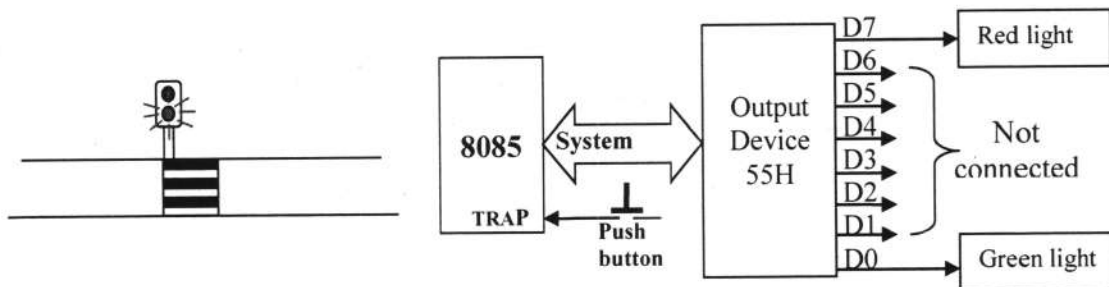

Figure 1
- c. Pedestrian crossing lights are installed at the zebra crossing as shown in the Figure 1 below. The system is controlled by an 8085 microprocessor. Write an assembly language program for 8085 to operate the lights continuously with one light on while the other is off. The green light is turned on for 4 seconds and red light for 10 seconds. Use subroutine for the delay, during each light operation. Assume that the clock frequency of 8085 is 3MHz.
To provide preference to the pedestrians, push button as shown in Figure 1 is also placed at the two sides of the road. If the push button is pressed 50 times the green light for pedestrians is turned on immediately for 4 seconds, and then the operation continues as before. The push button is connected to the TRAP interrupt pin of microprocessor 8085. Write interrupt subroutine for this purpose. [4]